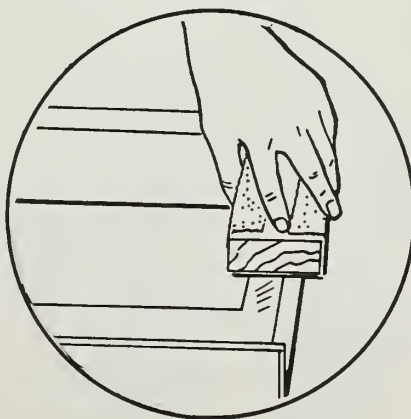

Fig. 3
2. Sand down these shiny areas. Try drawer to see if it moves more easily. Repeat sanding if it still sticks. (Fig. 3)